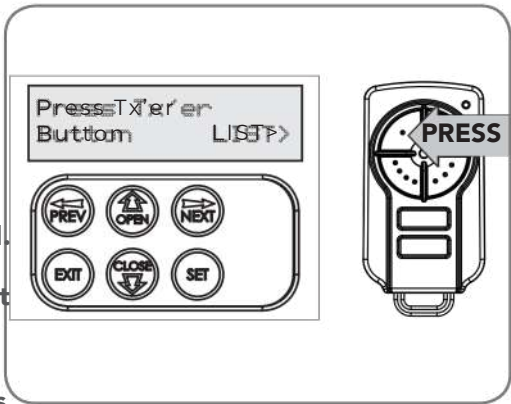

Fig H.2
- c. Press the transmitter once (Fig. H.2).